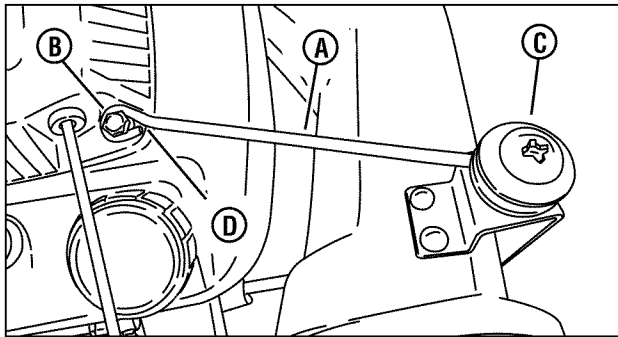

Figure 13: Installing the adapter standoff (Kawasaki engines only)
5. (Kawasaki engines only) Attach the grass bag adapter standoff (**A, Figure 13**) between the rope guide pulley and the engine recoil: